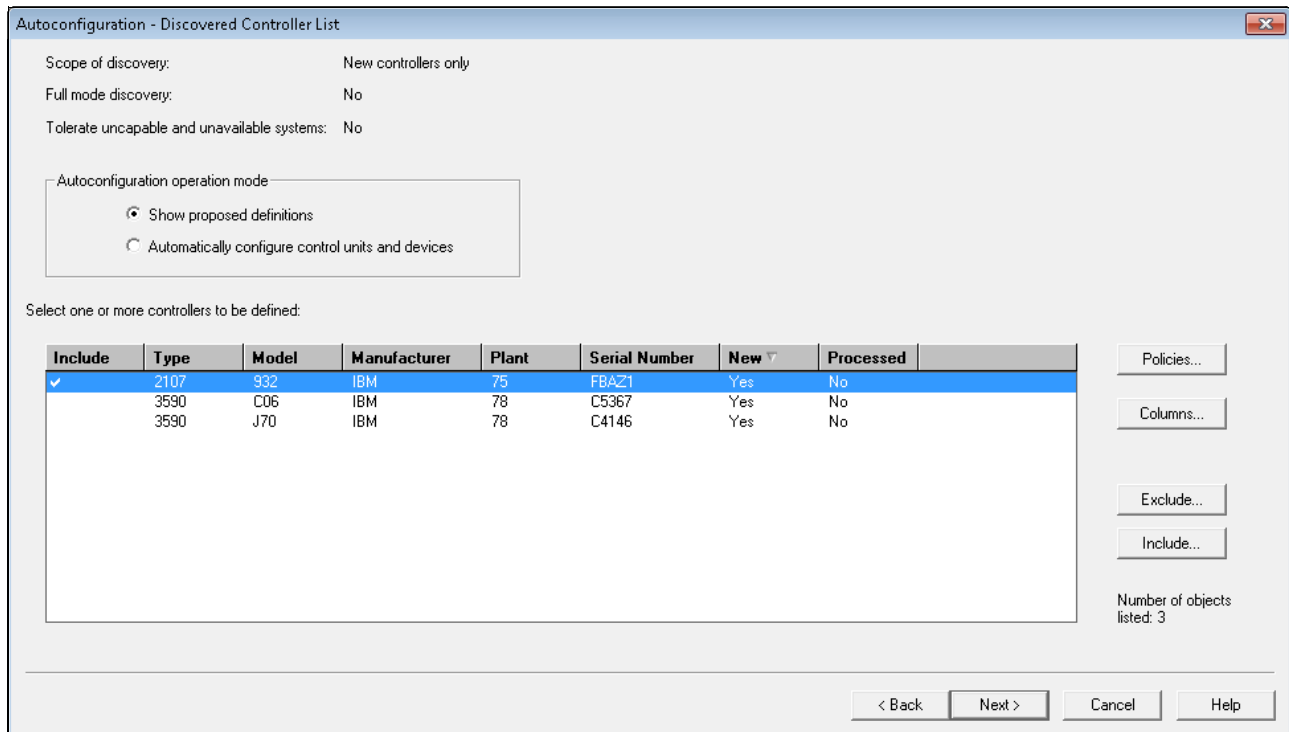

Figure 4-52 HCM - Autoconfiguration: include discovered controller
1. Highlight the controller and click **Include** to include that controller for the controller discovery process. Note the check mark in the Include column (Figure 4-52). Click **Next**.